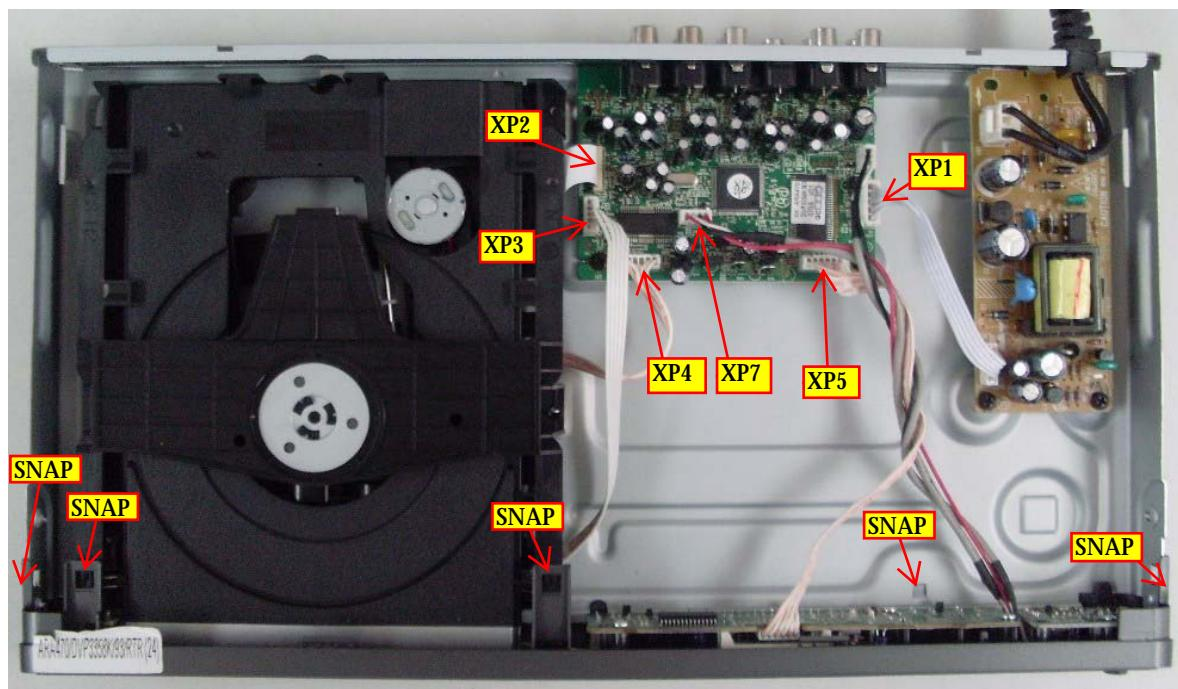
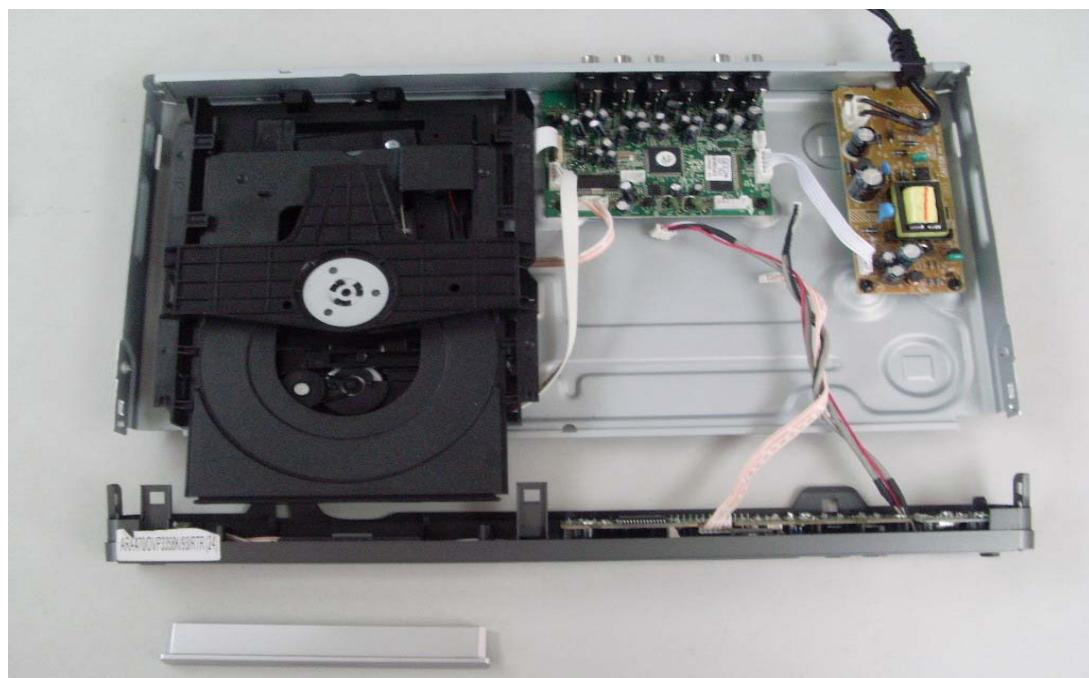

Figure 4
Figure 6
Step4: Dismantling Front Panel, disconnect the connectors (XP5, XP6, XP7), need release 4 snaps of Front Panel and 2 snaps of bottom cabinet , then gently pull the Panel out from the set. (Figure 4 - Figure 6)